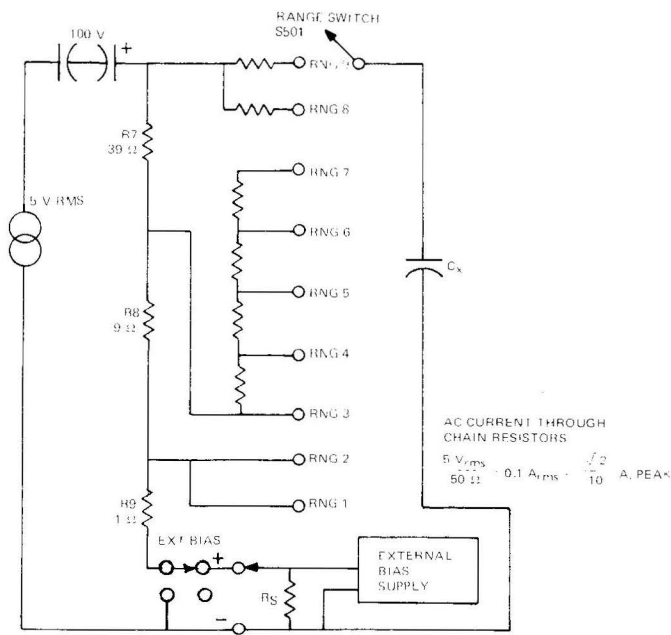

Figure 2-8. External bias connection, with resistor.
The bias supply should have an output impedance low enough so that the applied ac test voltage will not be appreciably changed when applied to the unknown. The output impedance required depends on the measurement range being used, as illustrated in Figure 2-8. On the top 2 ranges, the supply may have a rather high impedance. On the 5 middle ranges, the output impedance should be small compared to 10 ohms, and on the lowest two ranges it should be small compared to 1 ohm. If a shunt capacitor is used to obtain this low impedance, its reactance can be as large as one-half the above values.
*Also refer to Figure 6-4. R1, R2, and R3 represent bridge circuit components (Fig. 2-8) and represent total resistance for each RANGE switch position. U1, U2, and R_S also represent bridge circuit components. Components connected outside terminals are external networks and bias source (External source, L_A , L_X , L_B , C1, and C2).